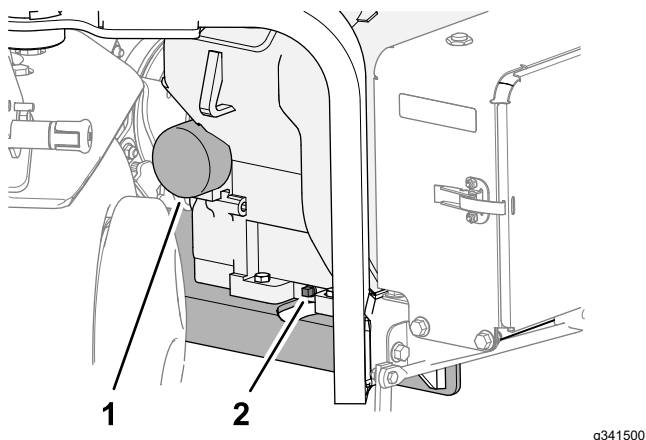

Figure 161
3. Place a pan below the oil-drain plug, and remove the plug (Figure 161).
1. Place a shallow pan under the oil filter, and remove the filter (Figure 161).
6. Thread the oil filter onto the filter adapter until the gasket contacts the filter adapter (Figure 161), then tighten the filter an additional 1/2 turn.